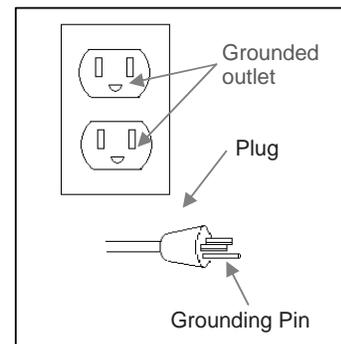

Figure 1
- J. **POWER CORD:** This product is for use on a nominal 120-volt circuit and should be grounded. A cord with a grounding plug as illustrated must be used. Make sure that the product is connected to an outlet having the same configuration as the plug (see Figure 1). No adapter should be used with this product.